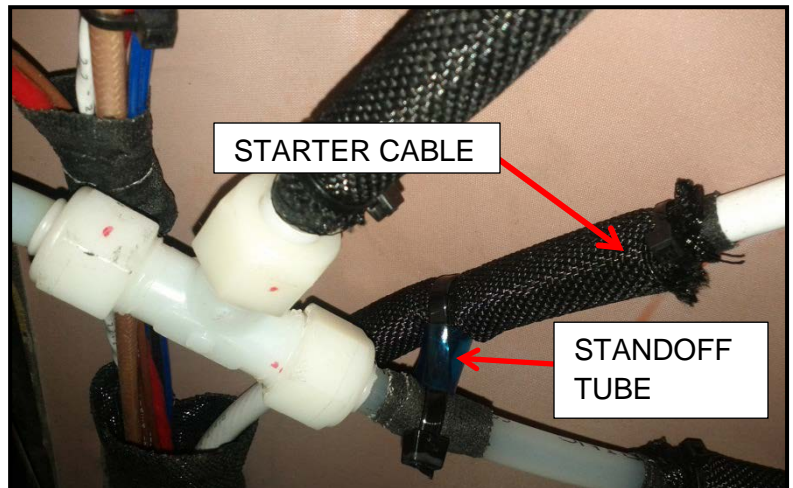

FIGURE 25 – Standoff Tube Installation (If Required)
63. It may be necessary to separate the new sump section of fuel line from the starter cable. If so, protect both with electrical friction tape and/or round-it protective wrap per Appendix B and create a short standoff using two cable ties and a short section of plastic tube (Figure 25).